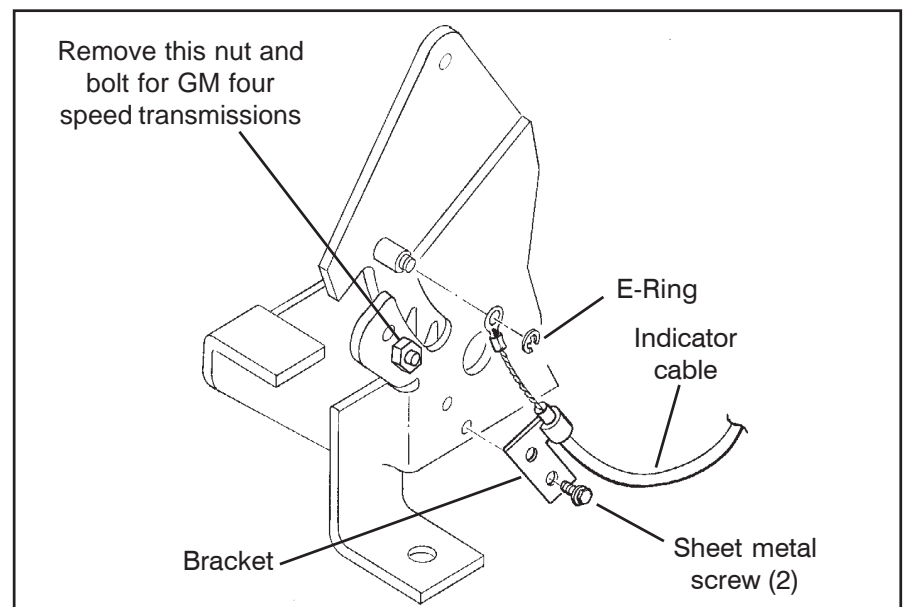

Figure 3
STEP 9. Just before the final installation of the shifter in the vehicle, attach the indicator cable to the side of the shifter as shown in **figure 3**. The indicator cable bracket is secured to the shifter mechanism with two #6 x 3/4" sheet metal screws and the eyelet on the end of the indicator cable is secured to the cable pin by a supplied small E-Ring.